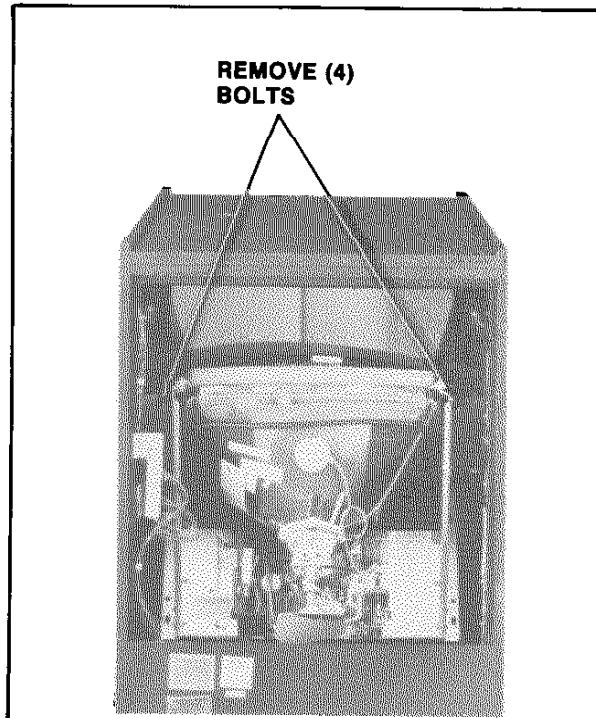

Figure 3-4 Removing the Monitor
1. UPRIGHT MODEL: See Figure 3-4.
The monitor mounting bars slide on top of and against two metal guides mounted to the cabinet's right and left sides. The monitor is removed by sliding it out the back of the cabinet. See Figure 3-4.